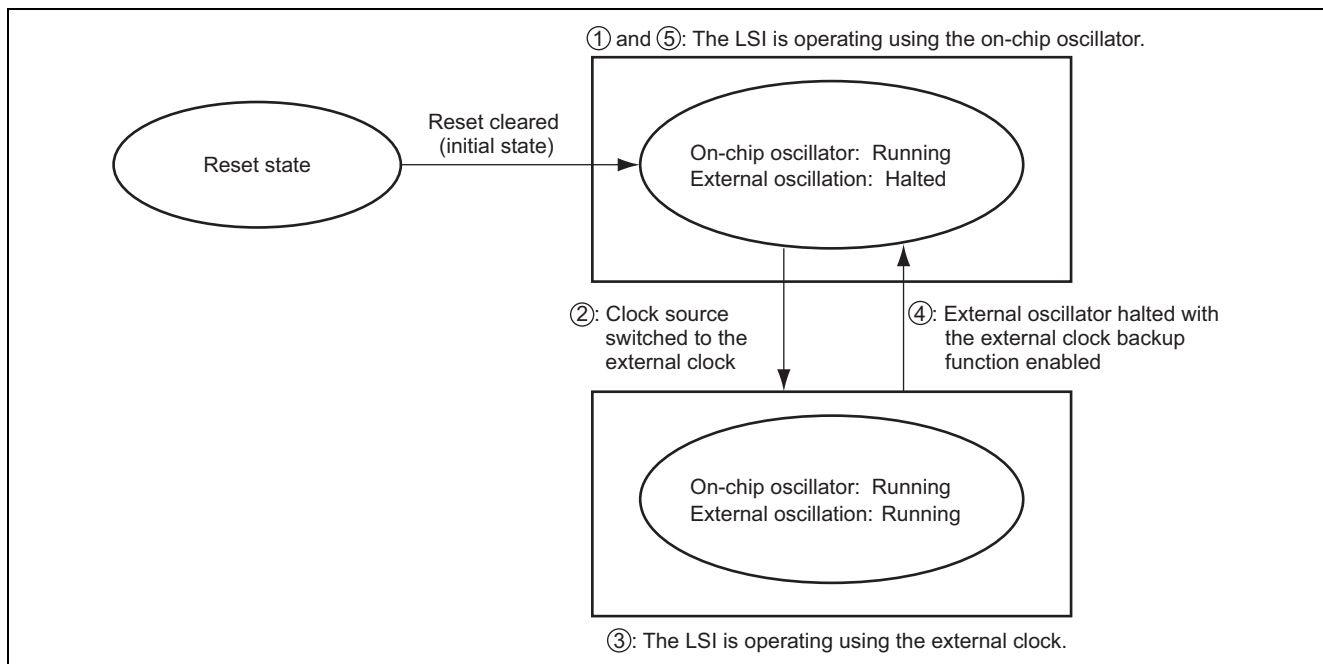

Figure 1 State Transition of the System Clock
- The state transition of the system clock is shown in figure 1.
- ① To confirm the operation, initially set the PCR20 bit of the PCR2 register to 1 to set the P20 pin as an output port.
- ② Switch the clock source from the on-chip oscillator to the external clock.
- ③ To confirm the operation, set the P20 bit of the PDR2 register to 0.
- ④ Stop external oscillation. Use the external clock backup function to switch the clock source to the on-chip oscillator.
- ⑤ To confirm the operation, set the P20 bit of the PDR2 register to 1.